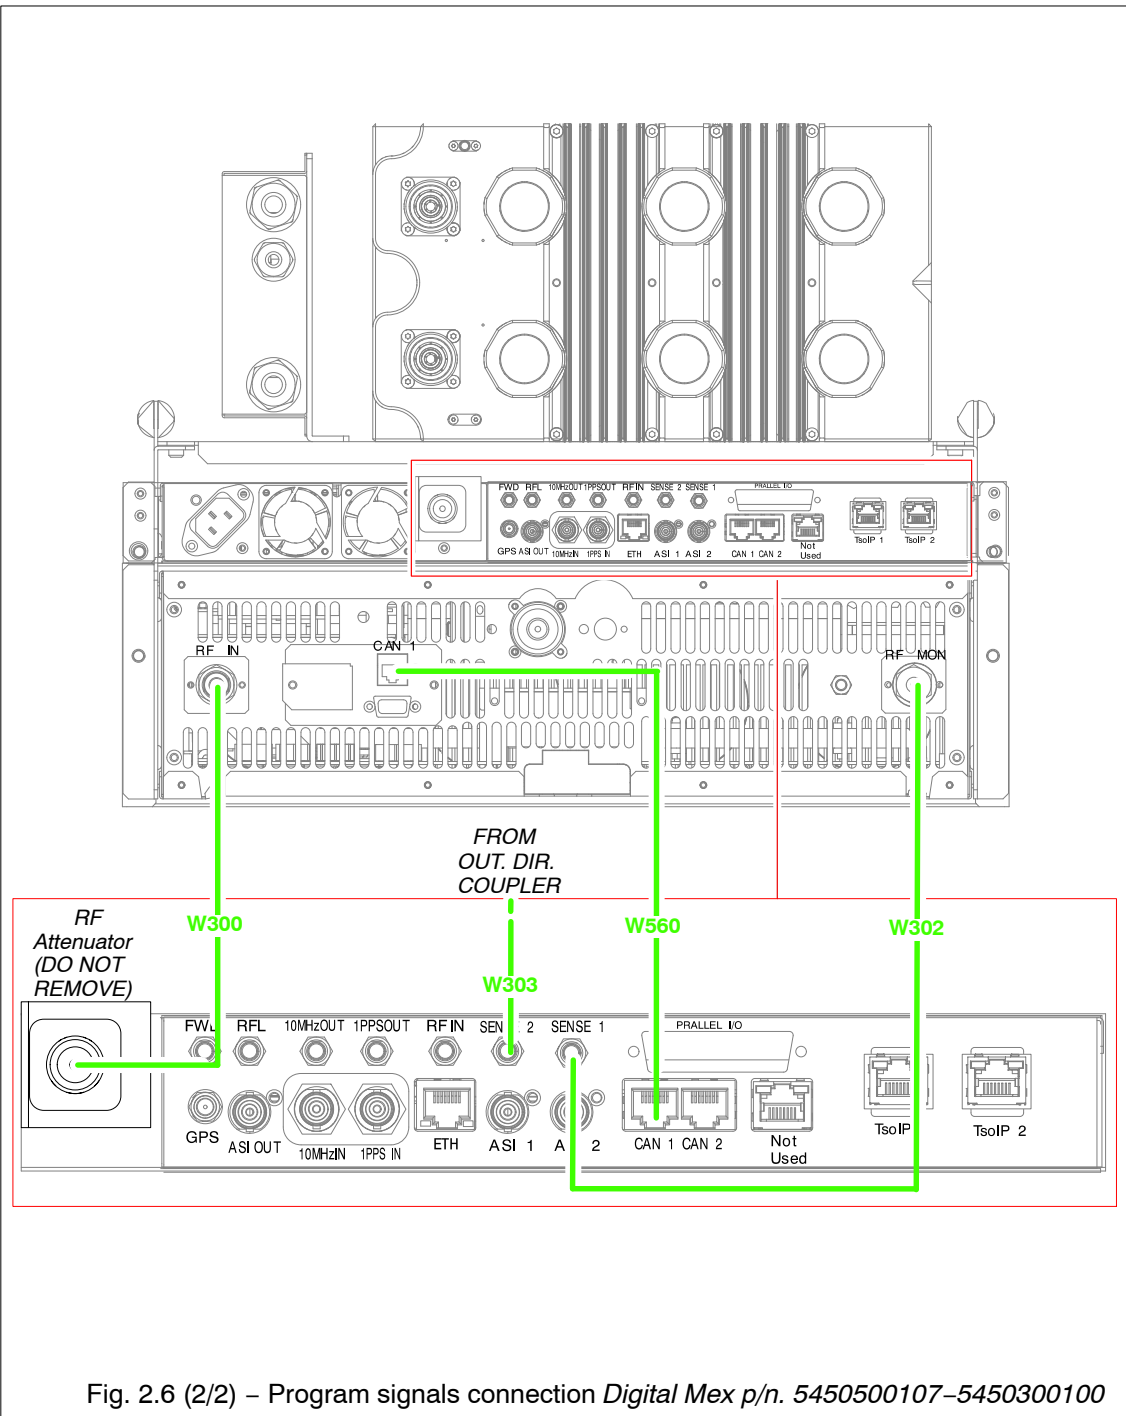

Fig. 2.6 (2/2) – Program signals connection *Digital Mex* p/n. 5450500107–5450300100
2.2.5 Program signals connection (refer to Fig. 2.6)
The connectors for the program signals are available on the rear panel of the modulator unit. Fig. 2.6 (1/2) is referred to the analogic version of the modulator and Fig. 2.6 (2/2) to the digital version.